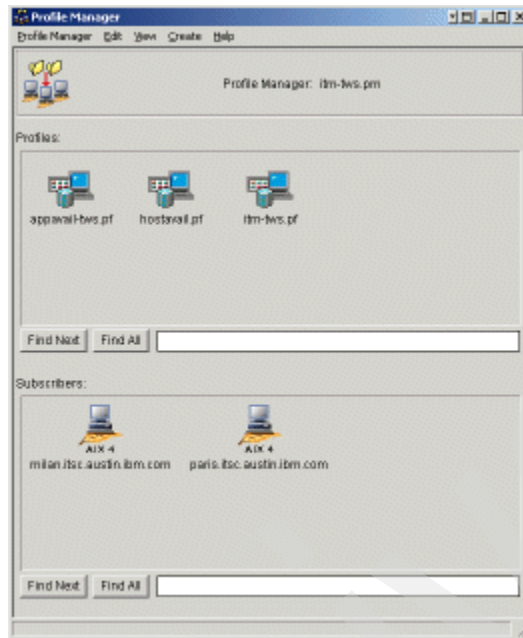

Figure 9-98 Configured appavail-tws.pf profile in itm-tws.pm profile manager
21. Select **Close**. The Tivoli Monitoring Profile window for the appavail-tws.pf profile is closed, and you are returned to the Profile Manager window for the itm-tws.pm profile manager, as shown in Figure 9-98 on page 505.